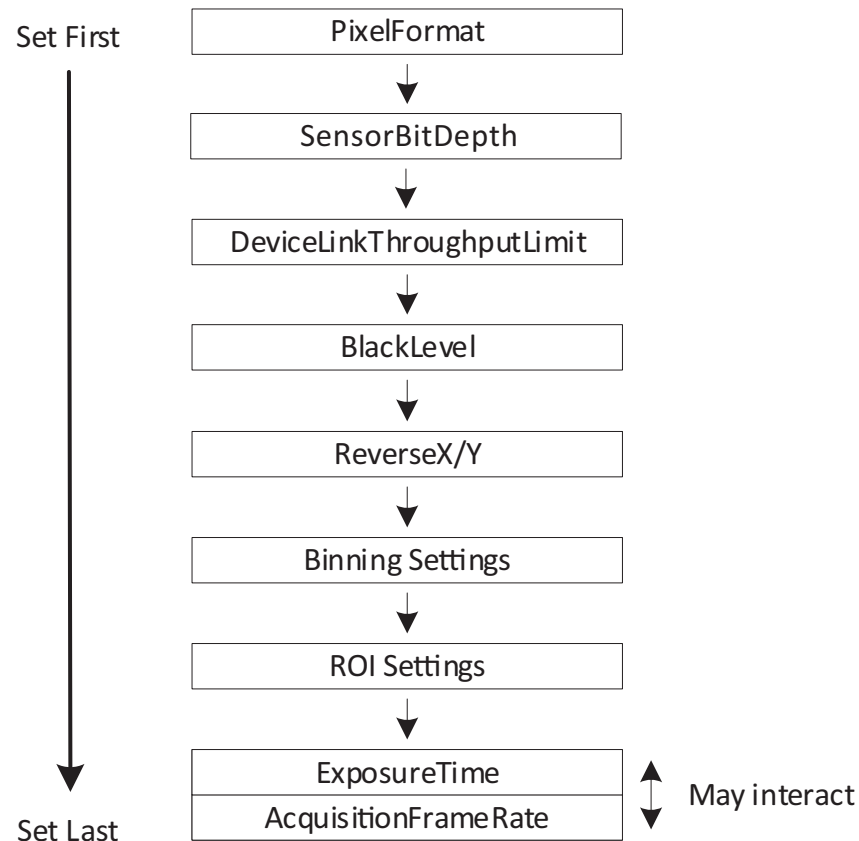

Figure 92: Interdependencies between features
The conversion between time and clock cycles affects control values. Features for pixel format, bandwidth, ROI, exposure time, and triggering are related to each other. Changing values for one feature can change values for another feature. For example, frame rates can be reduced when `PixelFormat` is changed subsequently. Figure 92 shows the interdependencies.
- To avoid readjustments, apply settings in the order shown in Figure 92.